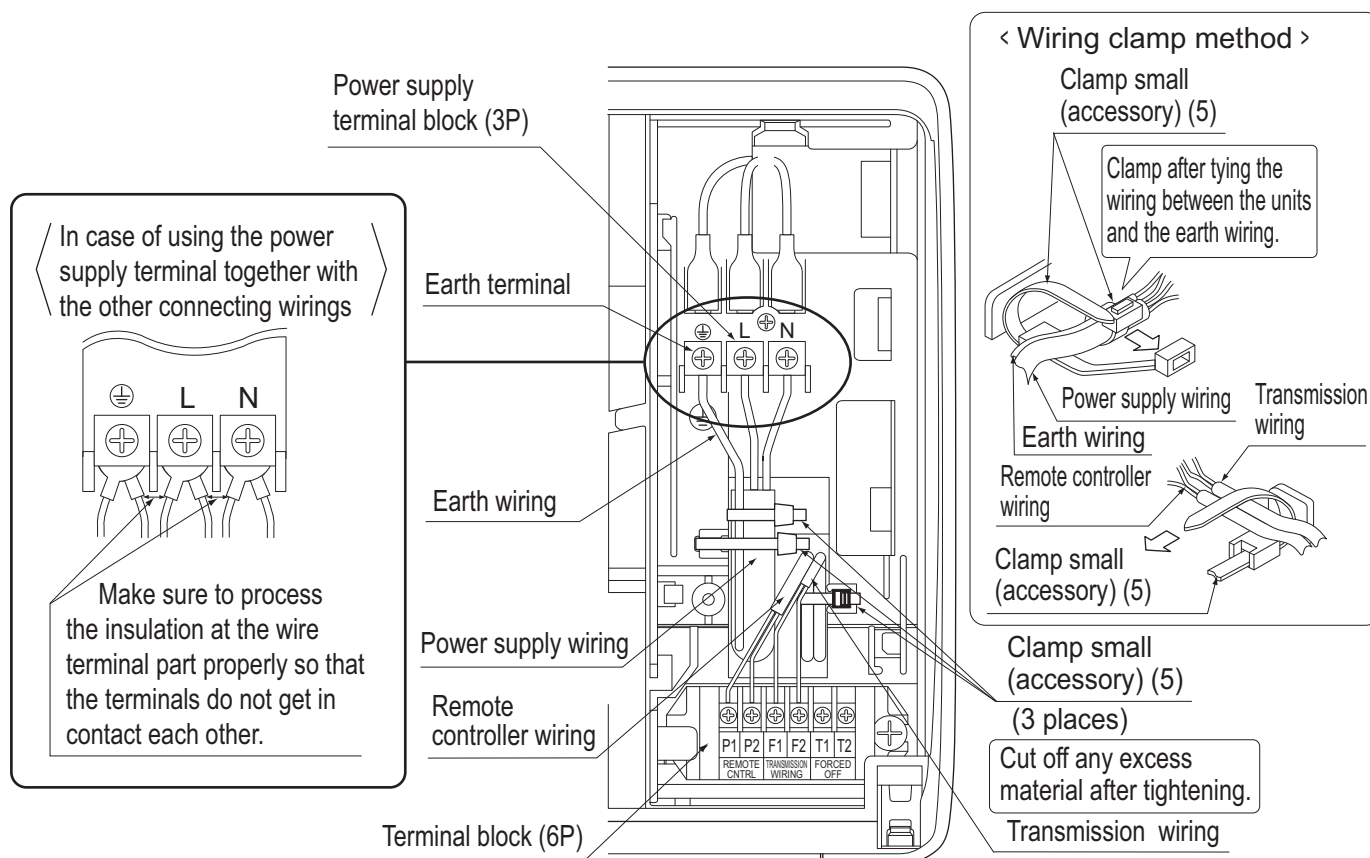

Fig. 21
**(Refer to Fig. 21)**
When doing this, tie the remote controller wiring and the transmission wiring using the included clamp (small) (5) and then firmly secure using the included clamp (small) (5) according to the figure. **(Refer to Fig. 21)**